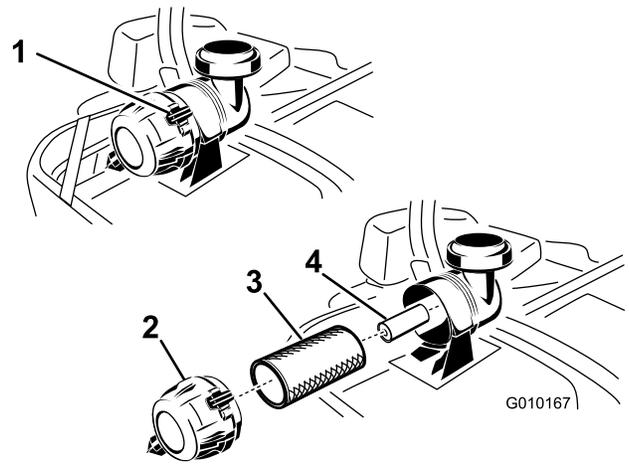

Figure 51
3. Push down to release the retaining clamps on the air cleaner and pull the air cleaner cover off of the air cleaner body (Figure 51).
5. Gently slide the primary filter out of the air cleaner body (Figure 51). Avoid knocking the filter into the side of the body.
1. Do not clean the paper filter, replace it (Figure 51).
2. If the secondary filter is being replaced, carefully slide it into the filter body (Figure 51).
3. Carefully slide the primary filter over the secondary filter (Figure 51). Ensure that it is fully seated by pushing on the outer rim of the filter while installing it.
4. Install the air cleaner cover with the breather cap down and rotate so the retaining clamps lock the cover in place (Figure 51).